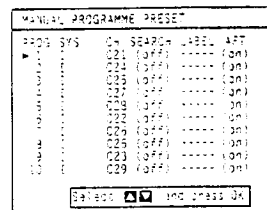

Fig. 17.
- 3 Select Manual Programme Preset with $\Delta+$ or $\nabla-$ and press OK. The MANUAL PROGRAMME PRESET menu appears. (See Fig. 17.)